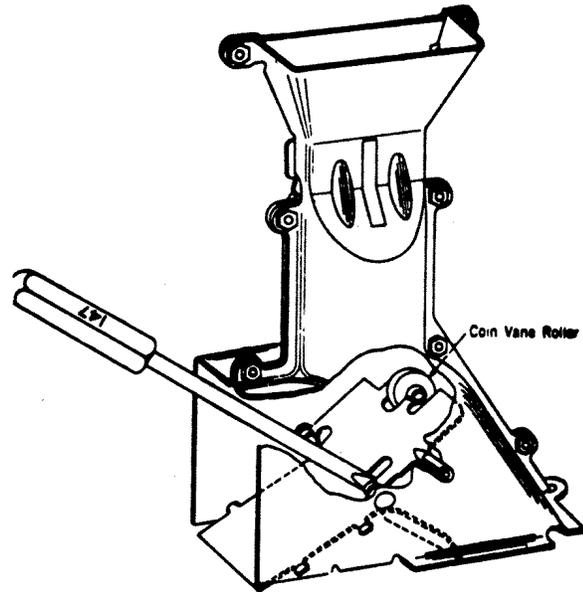

Figure 1A
- (1) Remove coin trap (see Paragraphs 4.12, 4.13 and 4.14 of section).
- (2) Remove coin shield (see Paragraph 4.15 of section).
- (3) Remove shoulder screw coin vane bearing from front of hopper and remove coin vane through slot in front of hopper
- (4) If vane is in good condition, it may be re-used. If necessary, free coin vane roller with KS-7860 petroleum spirits. Clean vane thoroughly using KS-2423 cloth moistened with petroleum spirits. Vane shall be replaced if not in good condition.
- (5) When remounting coin vane, assure that lock washer is under head of the bearing screw. Check vane and hopper clearance as in Paragraph 4.07 of section.
- (6) If vane scrapes on front of hopper, place No. 147 tool or equivalent, such as a No. 35 screwdriver, as shown in Figure 1A and adjust front bearing outward by turning tool slightly. If vane scrapes against back of hopper, adjust rear bearing outward as described. In adjusting vane, be careful not to introduce any binding at bearings.
- (7) If vane binds at front bearing, place No. 147 tool or equivalent between coin vane and back wall of coin hopper and turn tool slightly. Tool should be placed about opposite coin vane pin in order not to produce burrs on coin vane or on shoulder of stud used for coin vane bearing. If vane binds at back